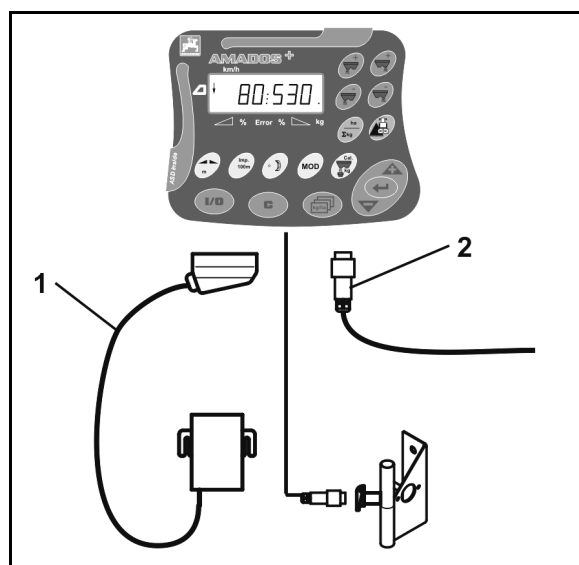

Fig. 2
1. Connect the machine mounted/attached to the tractor via the machine connector (Fig. 2/1).
2. Connect the signal cable from the tractor signal socket or the sensor X (Fig. 2/2) to the **AMADOS+**.